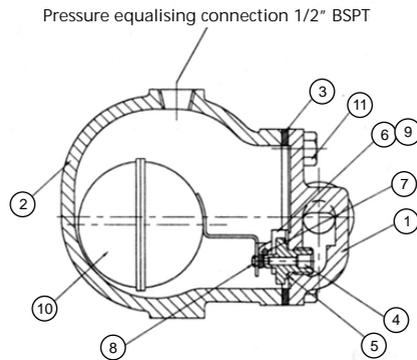

Figure 1: Forbes Marshall Liquid Drain Trap
(Refer to Fig. 1) A Forbes Marshall Liquid Drain Trap works on the Buoyancy Principle. As moisture enters the trap body and raises the ball float (10). The position of the ball float (10) depends upon the level/load of moisture (flow rate). The liquid drain trap continues to discharge moisture continuously & doesn't allow back up of moisture as long as the load is within the discharge capacity. When the moisture load drops, the ball float (10) lowers in position and closes the outlet orifice of the valve seat (4).
7.4. Procedure to fit Main Valve Assembly : (Refer to Figure 1 and 4)